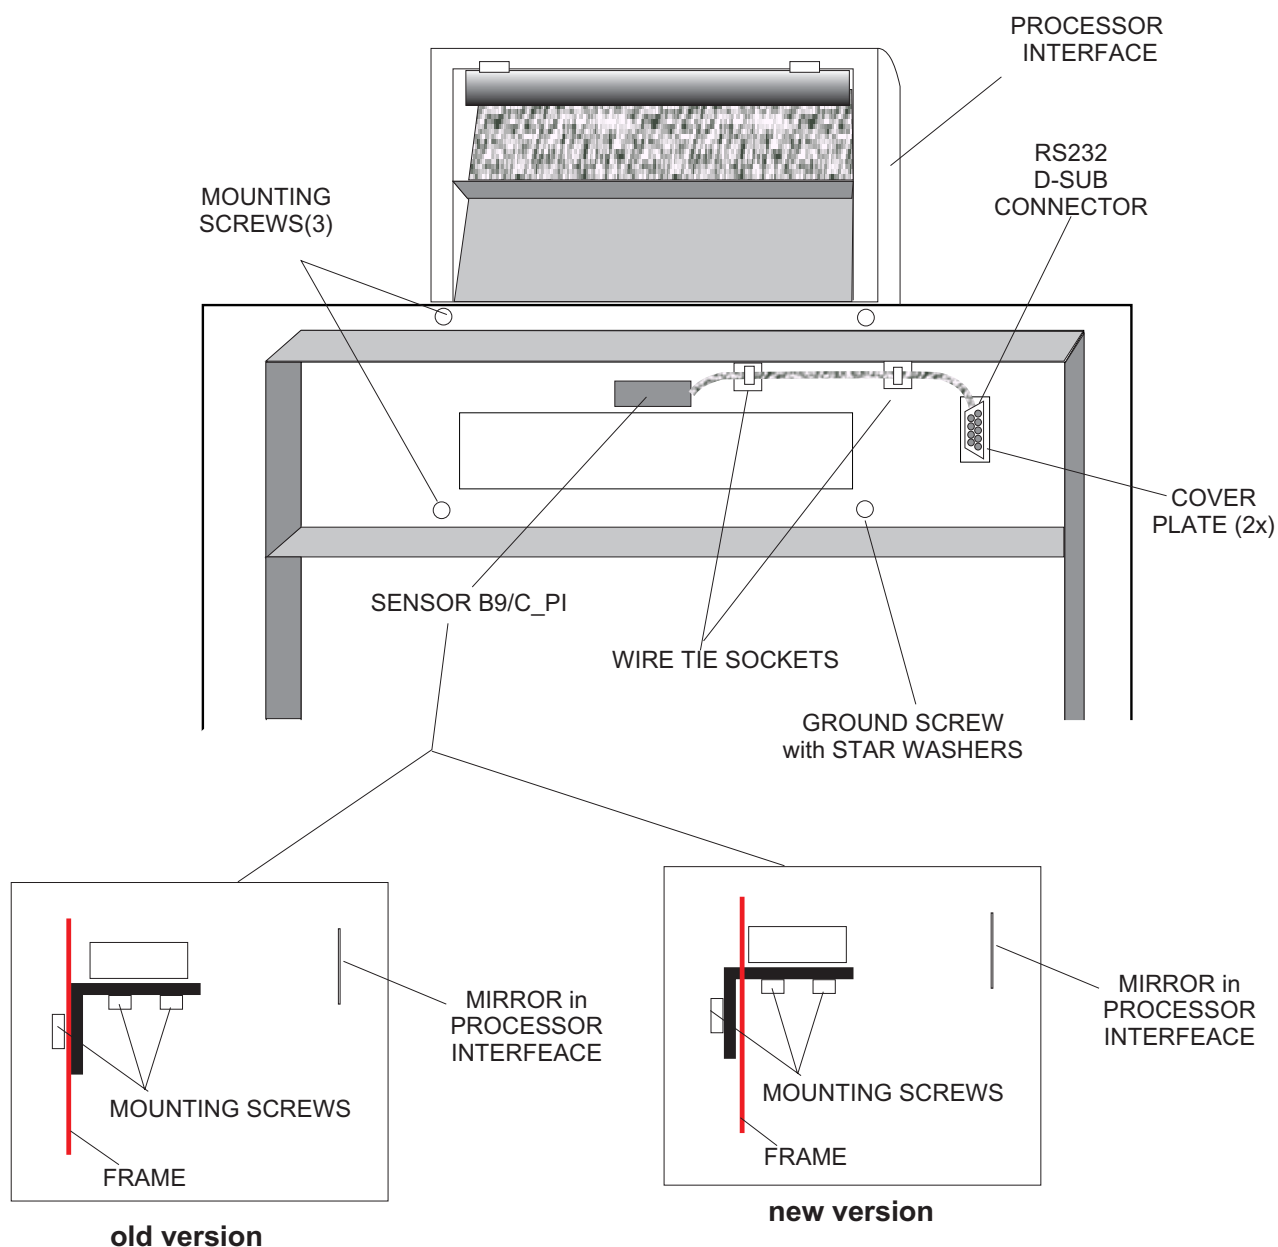

figure 1-3
- 12.** Mount SENSOR B9. See figure 1-3. Plug in the RS232 DATA CABLE from PROCESSOR to ML2000P.